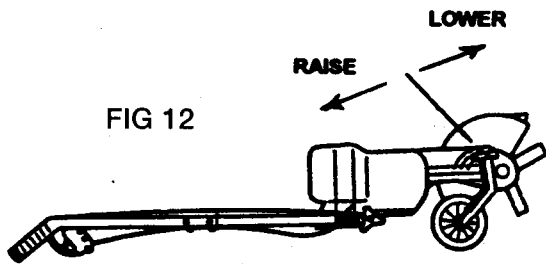

FIG 12
3. Adjust blade depth: Try second hole closest to operator (Fig. 12)